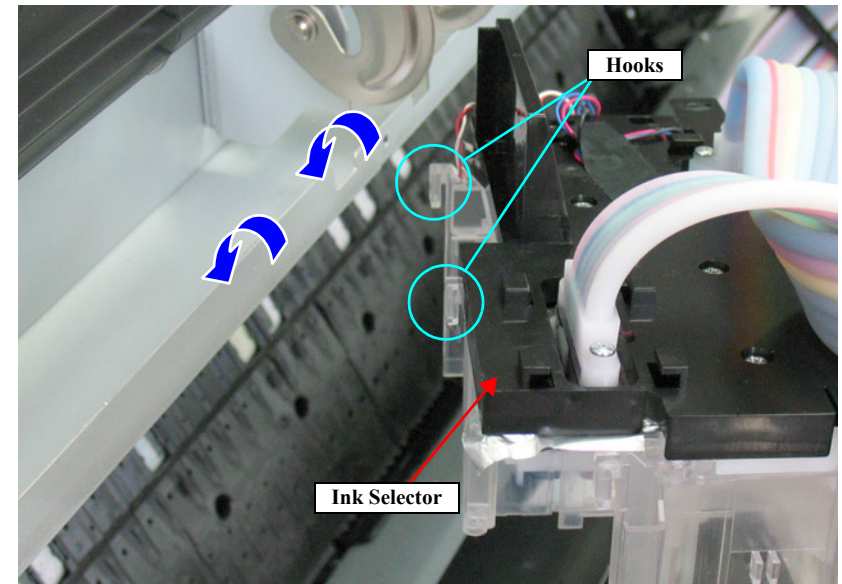

Figure 4-118. Securing the Ink Selector to the main body (1)
15. Attach the hook on the rear of the Ink Selector onto the Main Frame to secure the Ink Selector. *See Figure 4-118.*